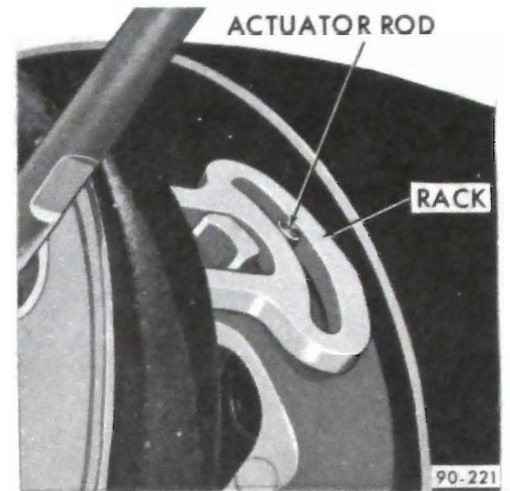

Figure 90-150 - Installing Bearing Housing
17. Assemble bearing housing over steering shaft and engage rack over end of actuator rod. See Figure 90-150.